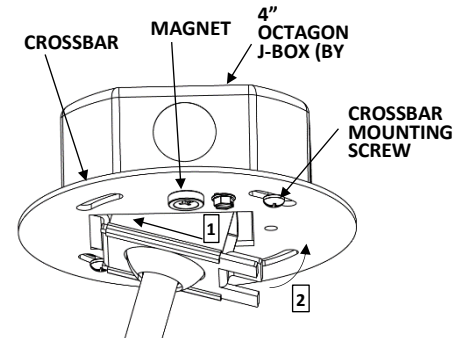

Fig. 8
7. INSTALL STEM ONTO CROSSBAR. Fig. 8,9.